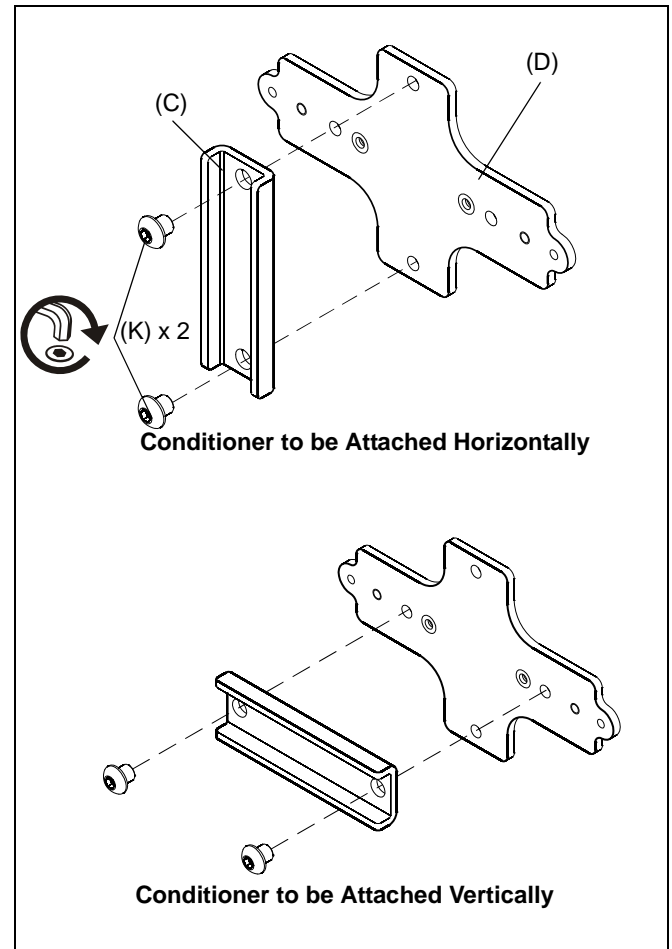

Figure 3
1. Attach bracket (D) to pole mount bracket (C) using two 1/4-20 x 1/4" buttonhead screws (K). (See Figure 3)
NOTE: The bracket can be installed for either horizontal or vertical attachment of the conditioner. (See Figure 3)